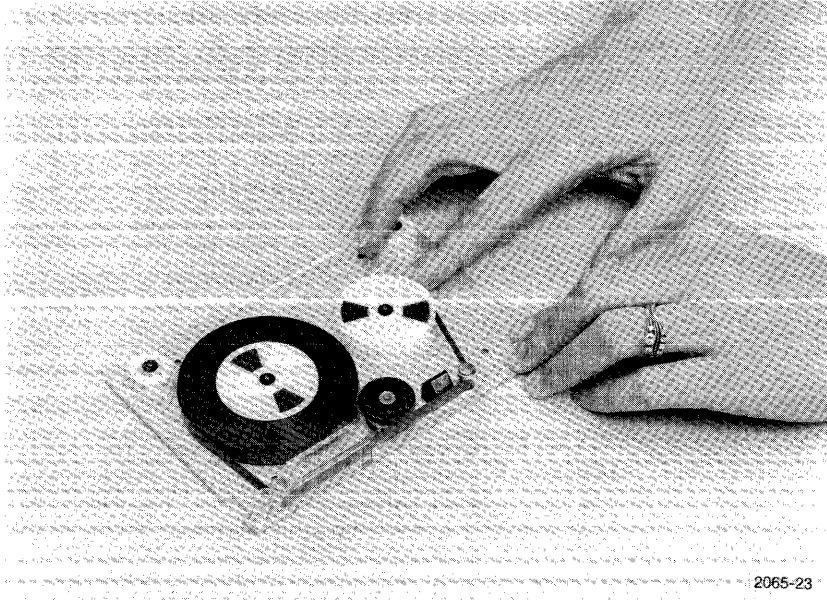

Fig. 3-5. Beginning the tape winding.
4. Rotate the spool, causing the tape to pass around the spool, with the loose end passing through the inside edge of the spool (Fig. 3-5). Do not press down on the full spool.